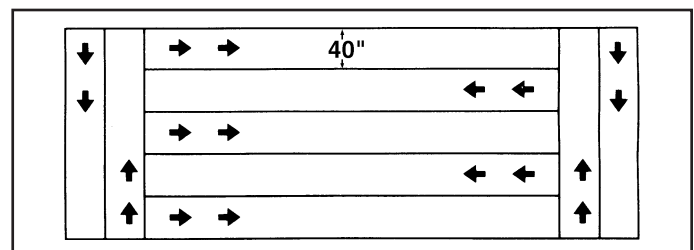

FIGURE 30
4. For easiest application, first apply material across both ends of the area. Two or three passes on each end are sufficient. Then apply material back and forth as shown. Use the end areas for turning around, shutting off the spreader as you enter the end areas and turning the spreader on again as your leave the end areas for your next pass. See figure 30.